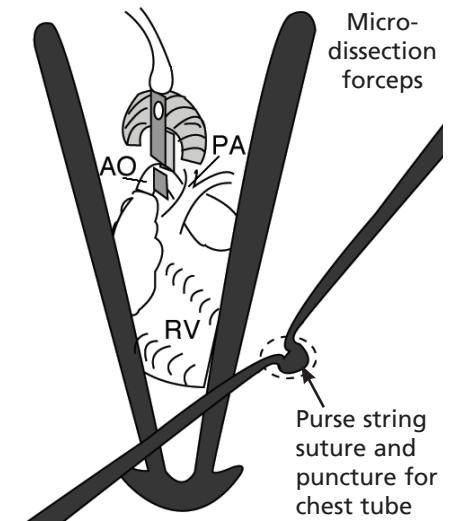

Fig. 3: Schematic showing site of suture and chest tube.
3. Brace the inside of the ribcage with a pair of 4" straight dissecting forceps. Make a puncture wound between the ribs inside the purse string using a pair of 4" curved micro-dissecting forceps (Fig. 3).